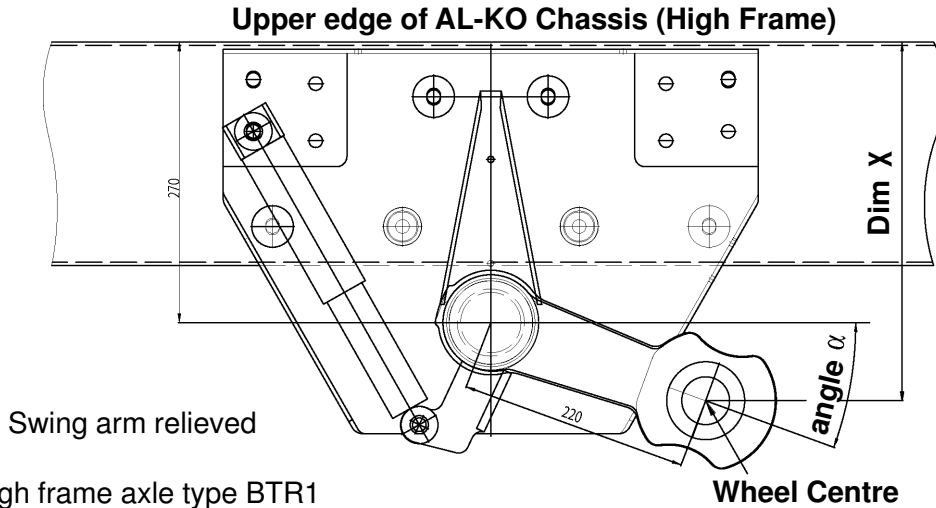

Fig. 22 High frame axle type BTR1
14. The dimension "X" is determined using the tables and figures 22 to 25 on pages 3-15 and 3-16 (dependent on axle model and swing arm design ).